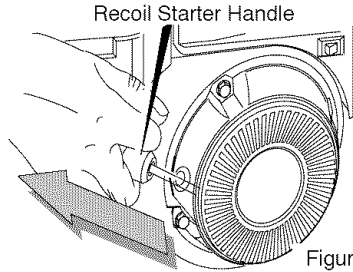

Figure 23
6. (**Recoil Start**) Slowly pull the **recoil starter handle** until resistance is felt and then pull rapidly to start the engine (see Figure 23). Do not allow the **recoil starter handle** to snap back. Slowly return the **recoil starter handle**.